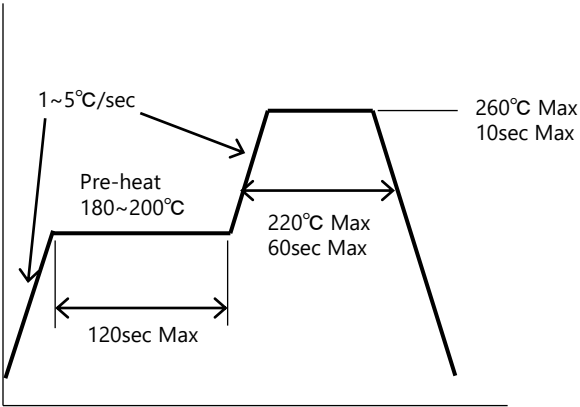

Figure 9. Recommended Reflow Soldering Condition (Lead-free Solder)
2. Nichia recommends using the reflow soldering conditions detailed in Figure 9 to the left; use the recommended reflow conditions specified by the manufacturer of the solder paste being used if it works better for the chosen application.